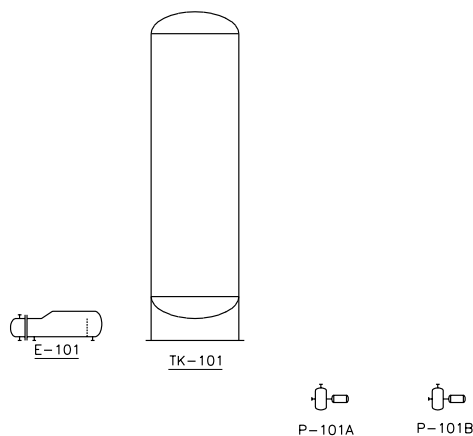

Figure 2-39 P&ID after placing two centrifugal pumps
5. Similarly, place another horizontal centrifugal pump at the point (21,3). Next, assign the tag **P-101B** to the pump. Figure 2-39 shows the P&ID after placing the centrifugal pumps.